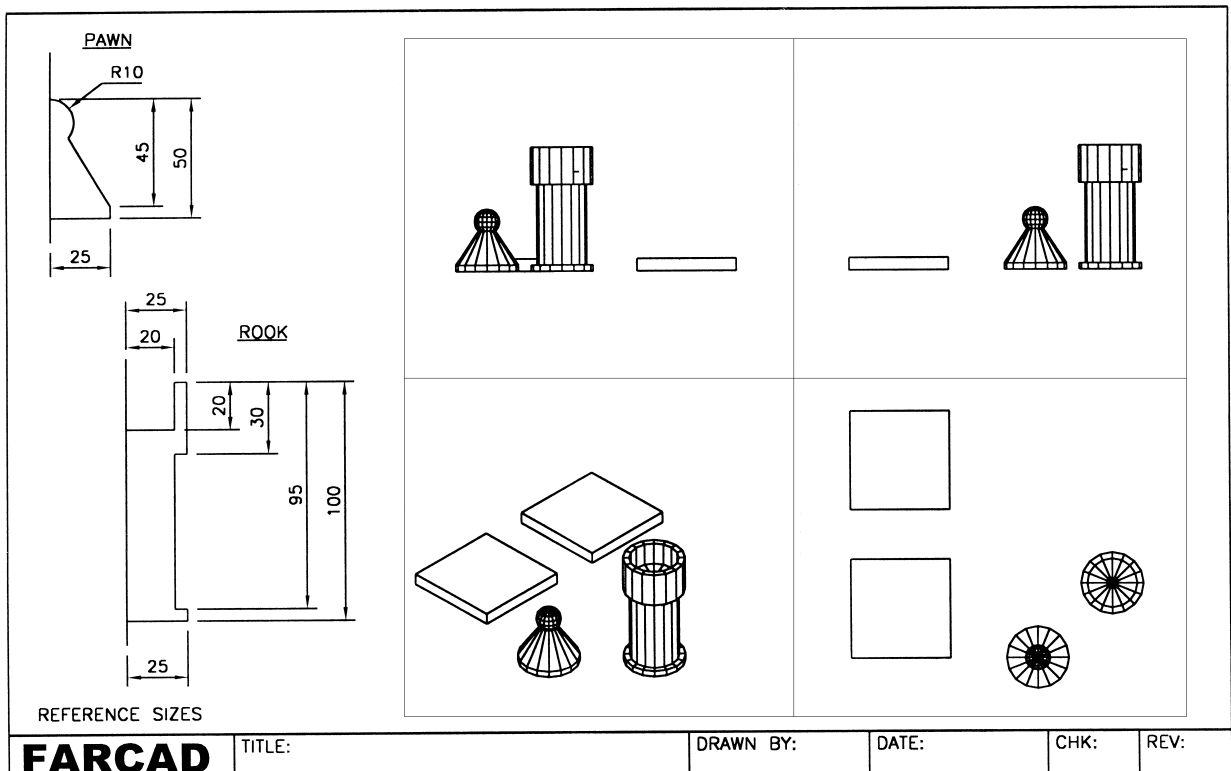

Figure 23.1 The four 3D block details.
- 2 In each viewport, zoom centre about the point 120,90,50 at 275 magnification. Refer to Fig. 23.1
- 11 Restore UCS BASE and models displayed as Fig. 23.1.